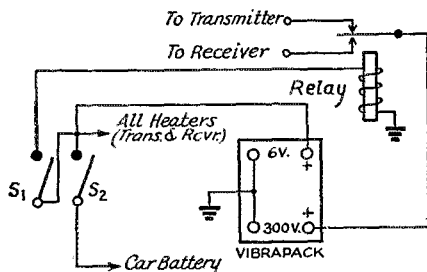

Fig. 2 — Wiring diagram of the control system.
With a remotely-controlled transmitter, or with carbon-plate modulator tubes which do not show a change in color when the dissipation is above normal, a separate bias supply for the modulator tubes would be desirable for complete protection, since the bias would be the same with or without excitation to the r.f. stage. It is not necessary to forego the use of a small, cheap supply. The diagram shown in Fig. 2-A is such a circuit. It is important to notice the differences between this circuit and the conventional bias supply shown at B. They explain why a light supply of this design can be superior to a heavy supply of wrong construction. The pi-section filter is primarily intended to keep the bias voltage at the
Fig. 2 — Recommended circuit for Class-B modulator bias supply (A) compared with conventional supply (B). C_1, C_2 — 8- μ fd. electrolytic. C_3 — 30- μ fd. electrolytic. R — Adjusted to cause rated output current of transformer to flow. L — 5 henrys, 120 ma. T — According to requirements; see text.